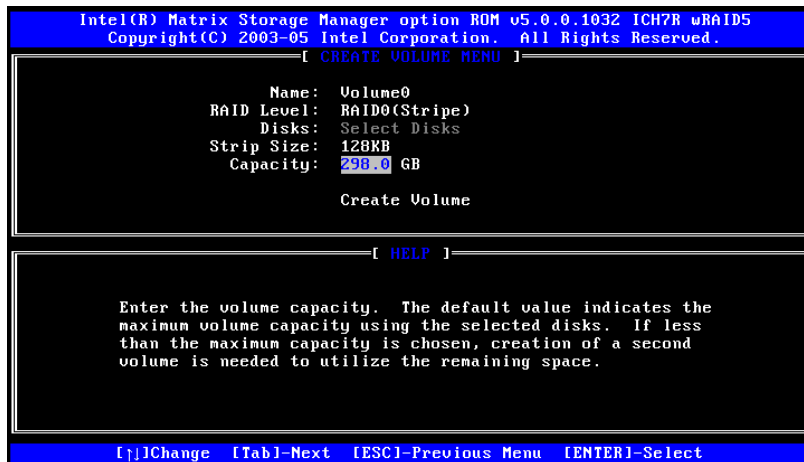

Figure F-5: Enter the Volume Capacity
**Step 5: Enter the Volume Capacity.** Enter the volume capacity, or press **ENTER** to accept the default capacity. See **Figure F-5**.